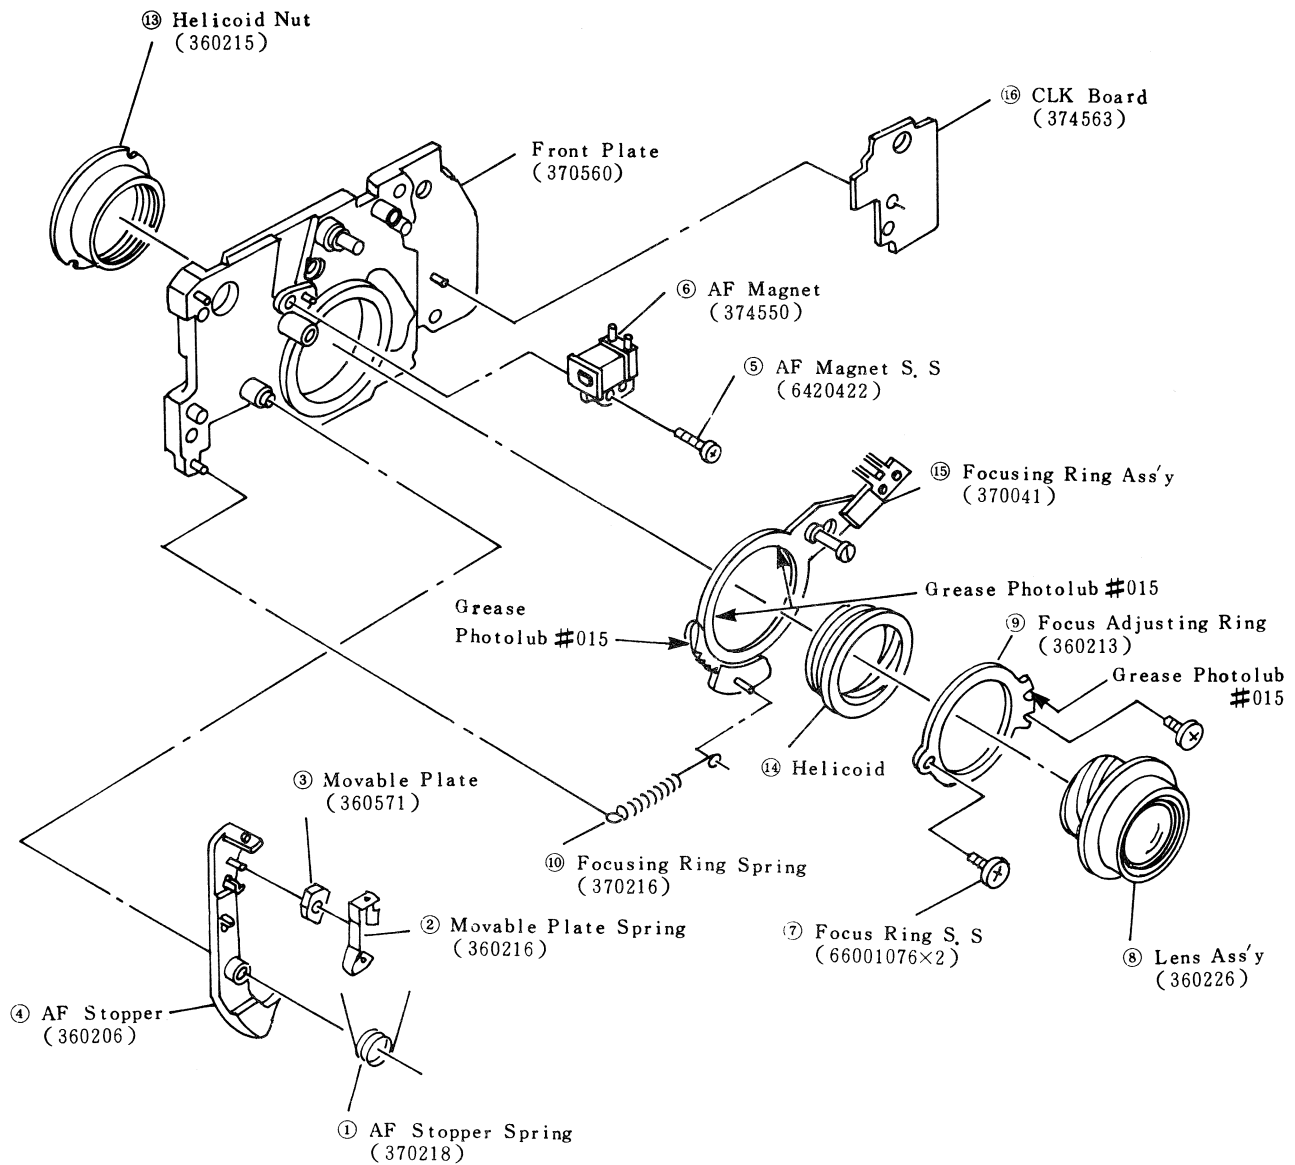

Fig 19
1) Remove the respective parts ①~⑯ shown in (Fig 19) in numerical order.